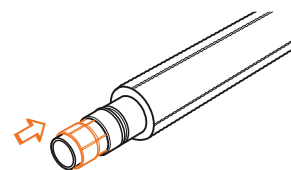

Fig. B10.3.2
- When fitting a FibreFlex Pro Press Reducing Coupler, take care to determine the correct configuration of the polymer sleeve and the relevant pipe size (Fig.B10.3.2).